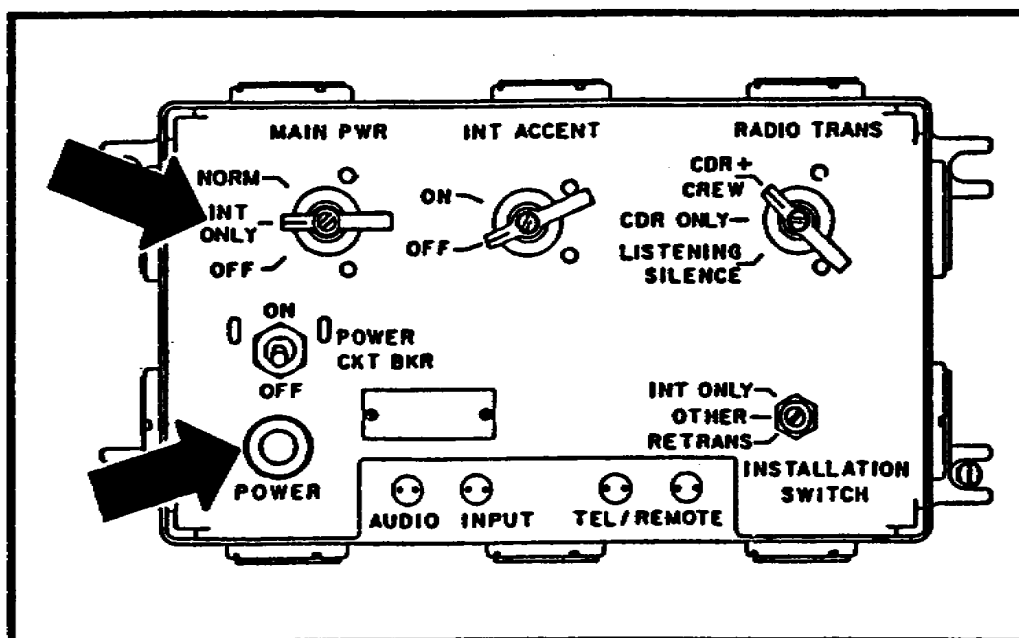

Figure 23. AM-1780 MAIN PWR switch at INT ONLY, POWER lamp not lit.
(3) See Figure 23. EPC Step 1c checks the AM-1780 MAIN PWR switch function when set at INT ONLY.